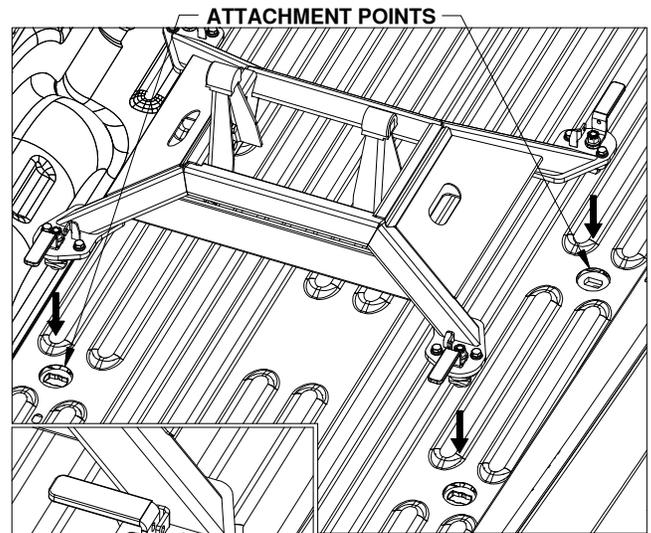

FIGURE C1:
1. The Companion base will mount to four attachment points in the truck bed. Remove any debris and/or obstructions from the truck bed, this includes any plastic caps which may be over the attachment points. Remove the latch pins from each side of the base and rotate the handles out, see Figure C1. Place the base over the attachment points and carefully lower it until the latch cams pass through the floor and the base rests flat against the top of the attachment points.